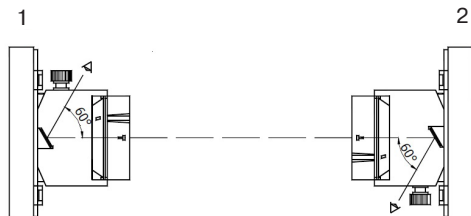

Figure 2 – Adjustment Optical Arrangement
- the optical diagram of adjustment is shown in Figure 2.